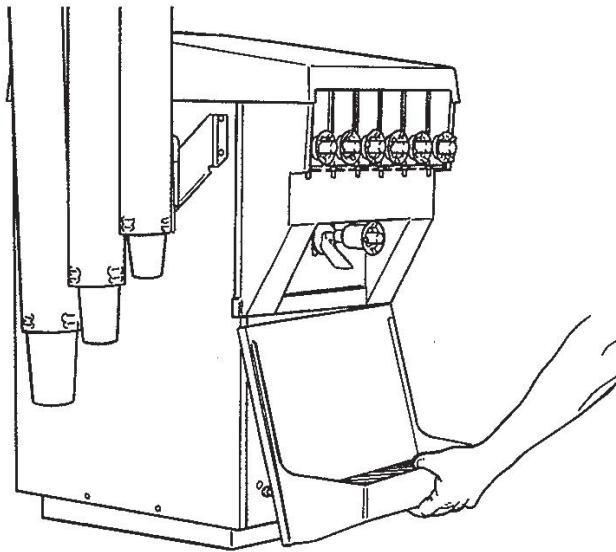

Figure 6. Installing Drip Tray and Insert
- G. Install the drip tray, insert and other miscellaneous parts on the freezer (Fig. 6).